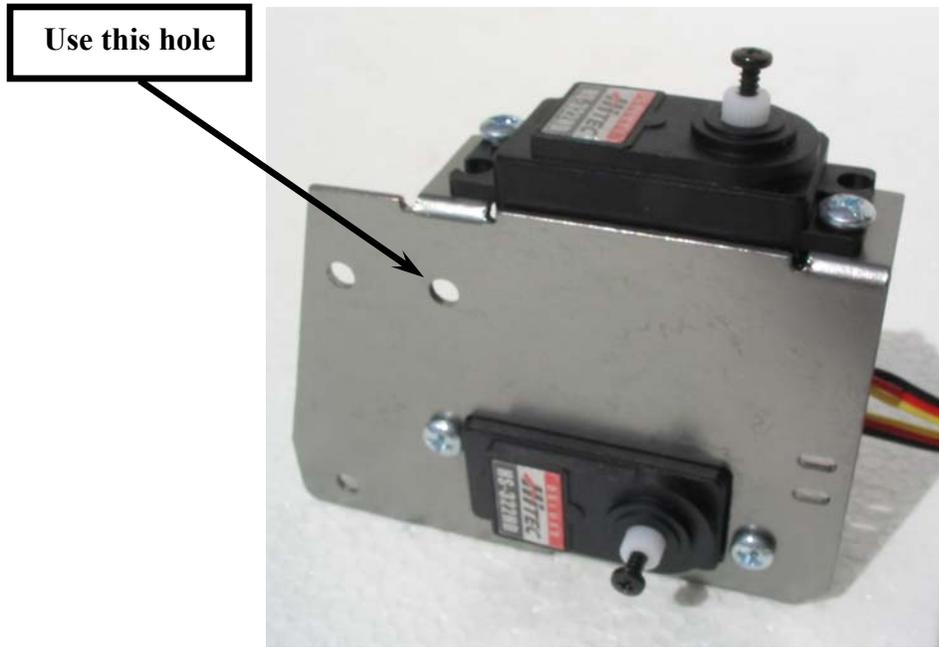

Figure 8: Leg Actuator Assembly
6. Using (1) #8, 1.25" screw, install the leg actuator to the leg actuator support through the #8 hole near the top of the servo mount as shown in Figure 8. Use the same hole for the right and left leg assemblies.